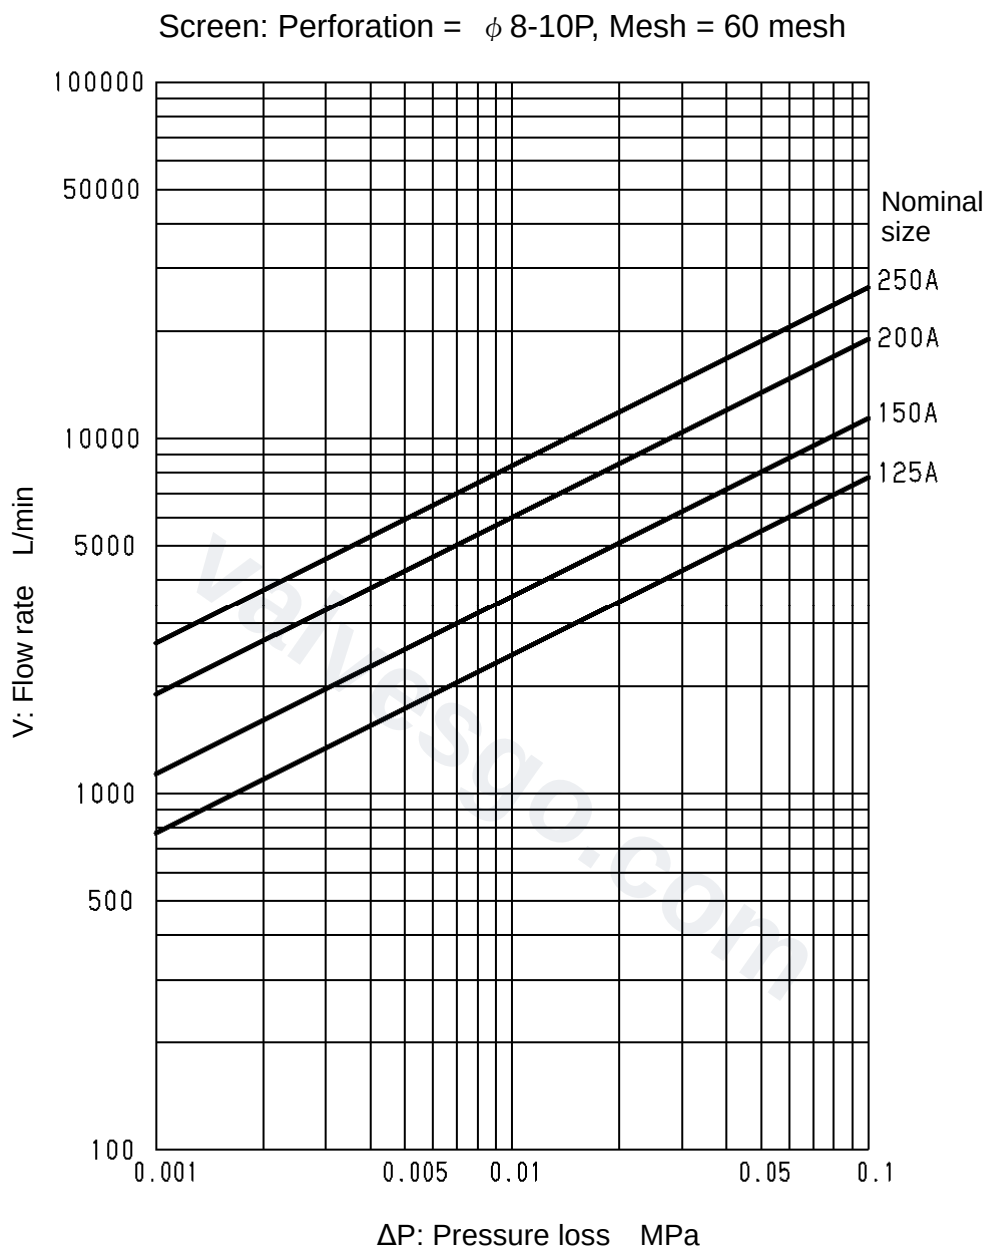

Fig.1 Pressure Loss Chart (For Water)
Select a strainer of the same nominal size as that of the pipe (nominal size of piping = nominal size of strainer). Note that using a strainer of a smaller nominal size increases the pressure loss of the strainer and may result in the pressure fallen below the specified level at the inlet side of the equipment (see Fig. 1 "Pressure Loss Chart").
3. Nominal size of the product is too small for the flow rate.	3. Replace the product with a new one proper for the flow rate (see Fig. 1 "Pressure Loss Chart" on Page 3).